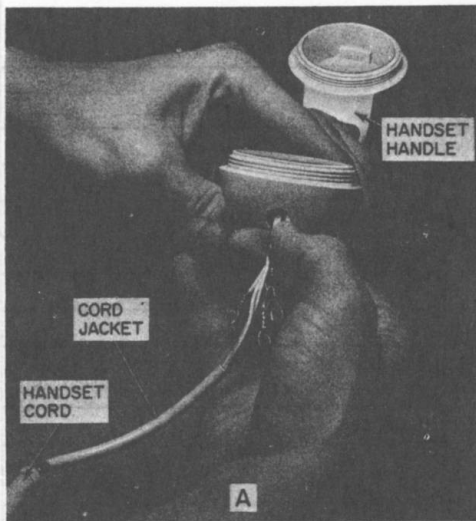

Fig. 11A—Handset Cord Replacement
- (1) Fold back the spade-tipped conductors over cord jacket ahead of grommet, feed through hole at end of handle (transmitter end), shown in Fig. 11A.